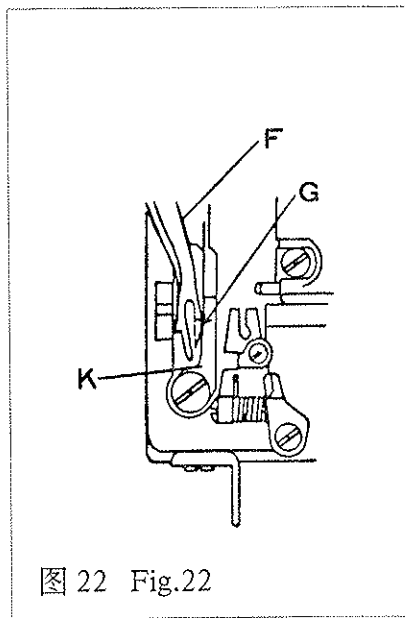

图 22 Fig.22
②转动手轮,检查钩线叉“F”运动到机针护板“K”的最近点“G”时是否相碰(图 22),如果相碰必须将偏心支承套向左作微量调整。
② Turn handwheel to make the pronged thread hook "F" move towards the nearest point "C" on needle guard "K" (Fig.22), if "F" comes into contact with "G", fine adjustment of the eccentric supporting sleeve shall be made.